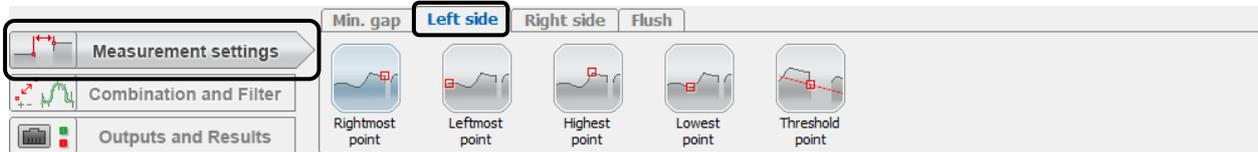

Fig. 3.35: "Measurement settings" input field, "Left side" tab sheet
- If not already done so, click on the "Measurement settings" button (see Fig. 3.35).
- If not already done so, click on the "Left side" tab (see Fig. 3.35).
- ▶ If not already done so, click on the "Measurement settings" button (see Fig. 3.35).